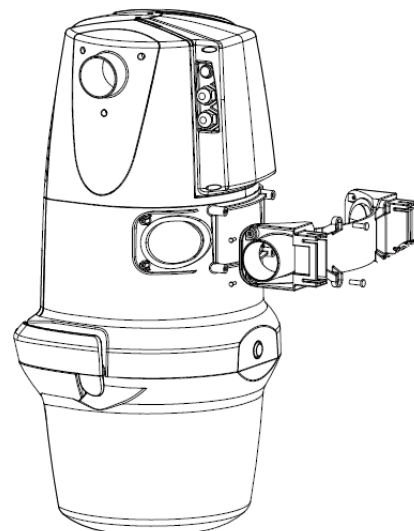

Figure 15
3. Replace the reversible support/inlet in the new position (Figure 15)